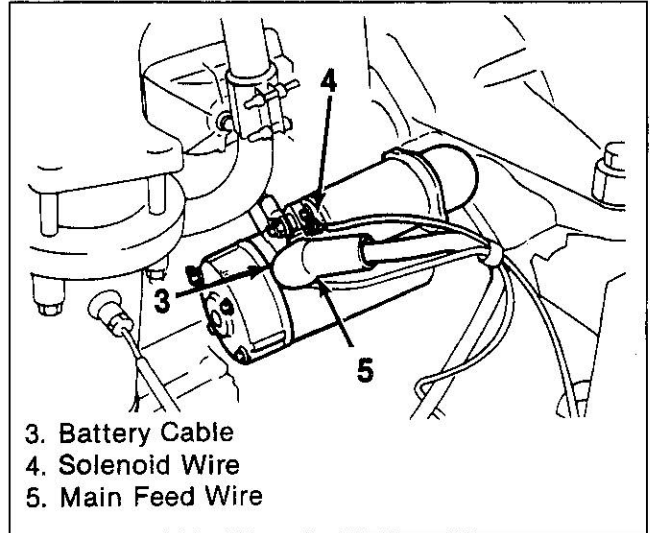

Figure 2. Wiring at Starter
Main feed wire (5) at the starter solenoid (figure 2).